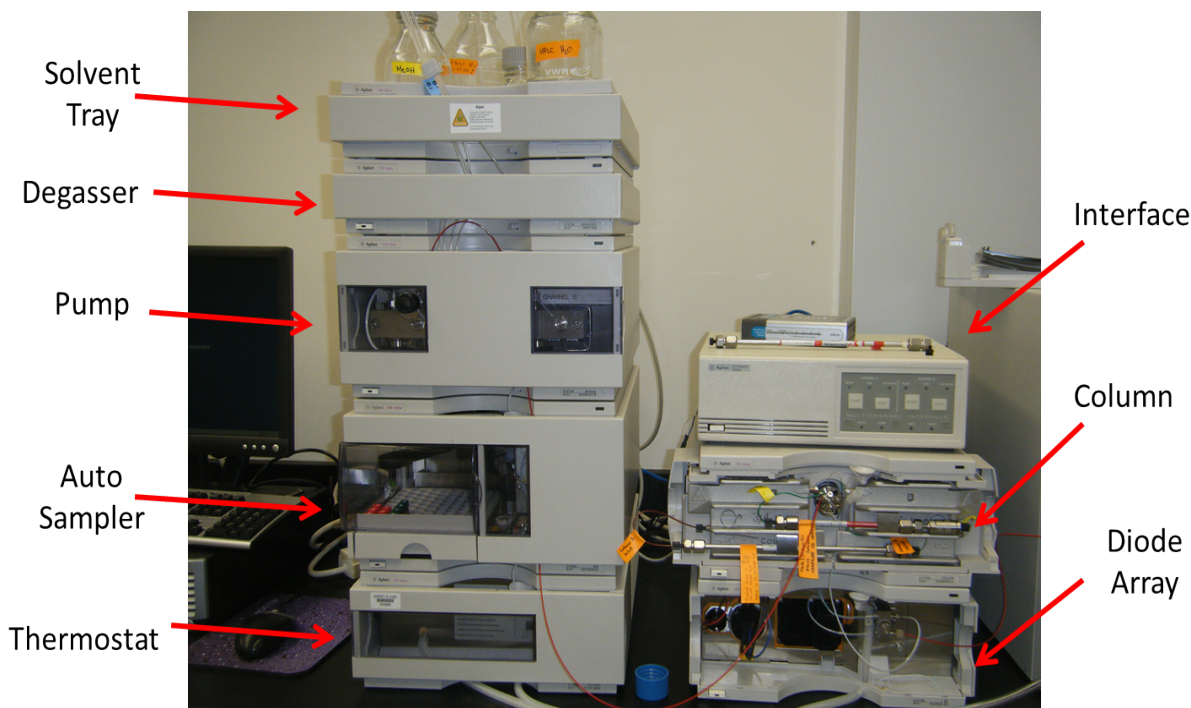

Figure 2: Labeled Agilent 1100 Series HPLC at UAF
mixture ratio. It's important to flush the system before running your samples in order to insure that the solvents used for the previous sample does not interfere with your samples. The mobile phase flow rate is important and can range from 1-10 mL/min, though 1 mL/min is a good place to start with most experiments. It's important to monitor pressure when adjusting the flow rate, as the pressure should not exceed 400 bar. The injection can also vary in volume, anywhere from 0.1-100.0 μ L. For concentrated samples, 3-5 μ L is appropriate and 25 μ L for dilute samples. Starting with an injection of 10 μ L is typical. The temperature can be adjusted but for most samples 25 $^{\circ}$ C is adequate. The temperature setting should never exceed 50-60 $^{\circ}$ C. You also need to know what wavelengths in the UV-VIS spectrum you want to monitor. A diode array detector has a range of 210-400 nm and for samples, the default program setting are fine. The HPLC at UAF is an Agilent 1100 Series and is located in downstairs instrument room. (Figure 2).
2. **Connect your column.** After deciding which column you should use, mount it on the column holder (Figure 2) and connect the injection and waste lines to the column. The arrow(s) on the column will indicate the direction of flow. All connections to the pump should be finger tight.